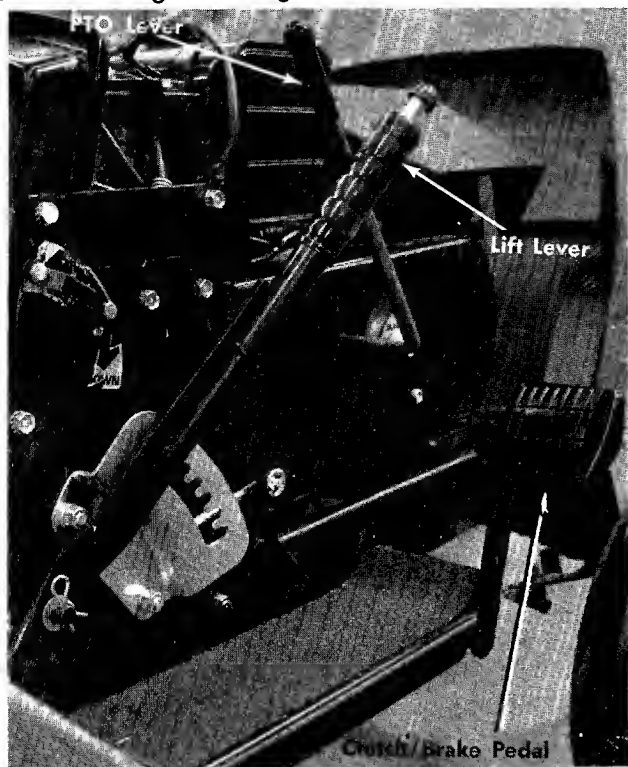

FIGURE 11. CONTROLS
e. PTO Lever. The PTO lever engages the deck belt when it is moved forward. Moving it to the rear disengages the deck belt. The engine will not start unless the PTO is in the OFF position as shown in figure 11.
f. Lift Lever. Depress the thumb button and pull back on the lift lever to raise the attachments. See figure 11.
- Step 3. Place the PTO lever in the OFF position as shown in figure 11.
- Step 4. Depress the clutch brake pedals all the way down. See figure 11.
- Step 8. Lower the cutting deck with the lift lever. See figure 11.
- Step 9. Slowly engage the PTO lever. See figure 11.
Move the PTO lever towards you to stop the blades from turning. See figure 11.